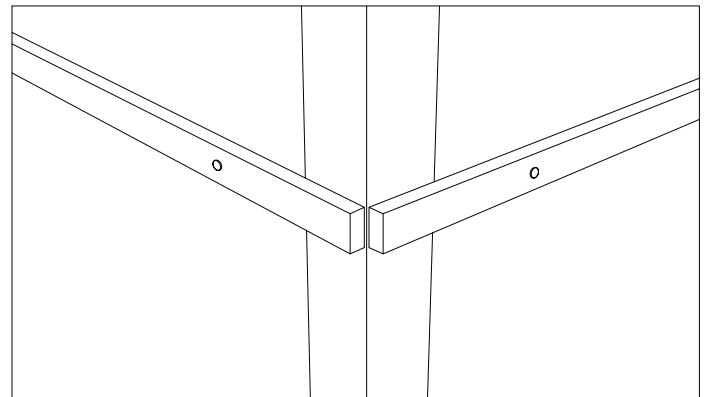

Figure 8B. Starter strip
- For Hardie® Artisan lap only, install a 1 1/4 in. starter strip such that the ends stop at the corner of the wall. Do not overlap the ends (Figure 8B).